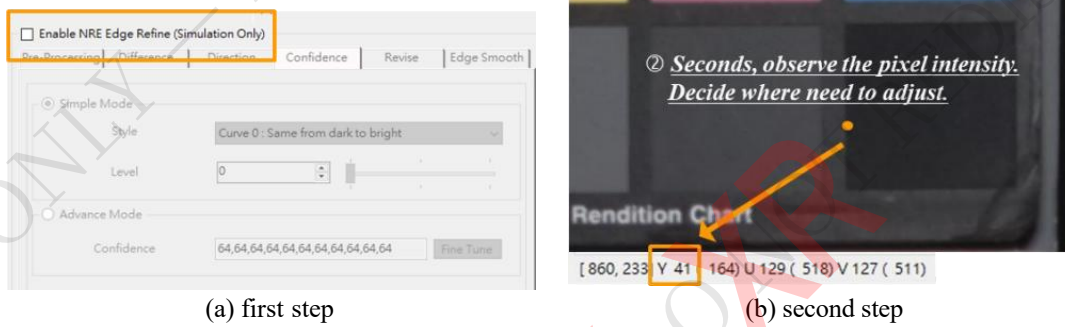

Fig 6.94 The steps of the advance mode tuning.
- The steps of the advance mode tuning as Fig 6.94 .
- ☐ Level 0~2: strict to lenient, their results as shown in Fig 6.94.